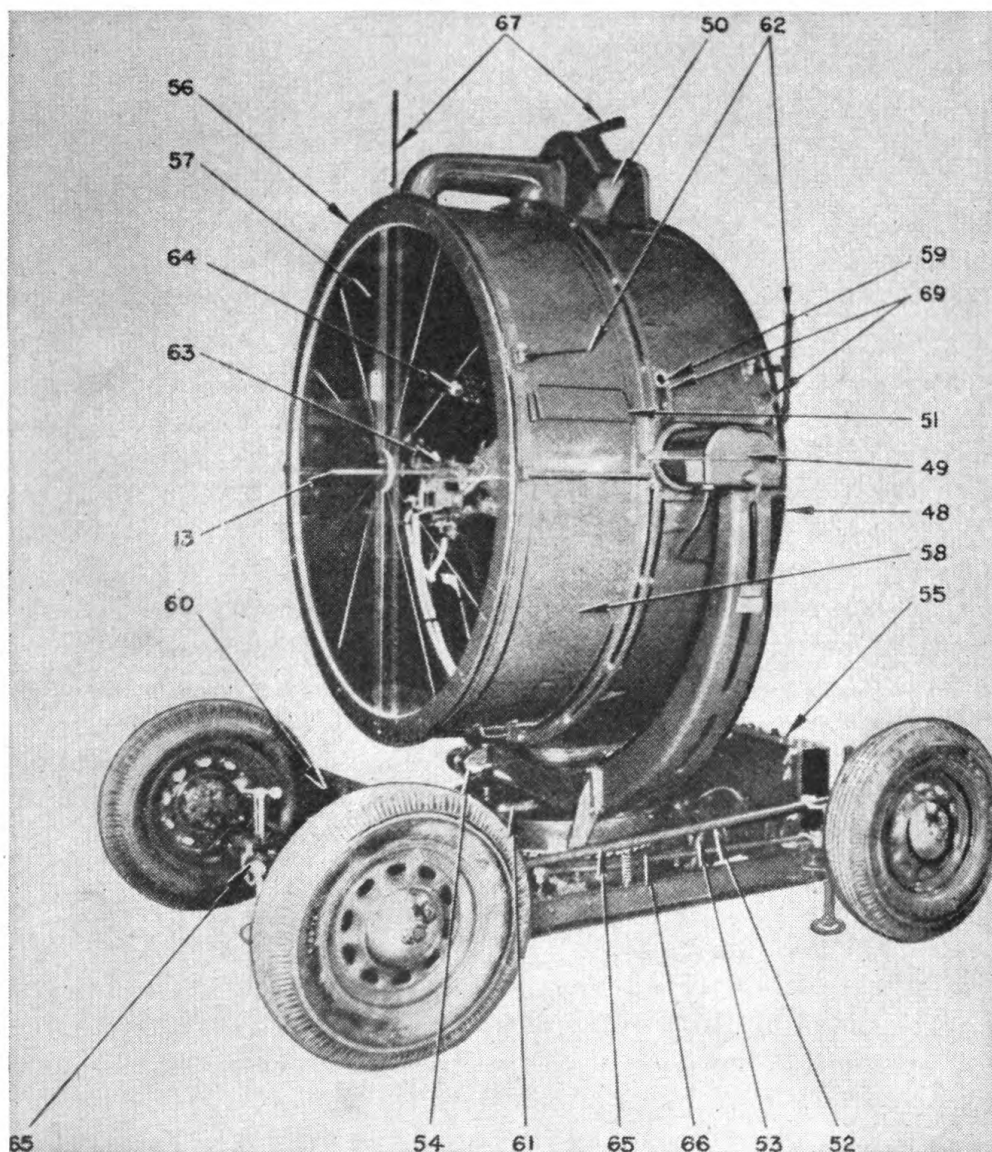

FIGURE 2.—Sperry M1941 antiaircraft searchlight (front quarter view).
Q. Point out the various parts of the searchlight with which your unit is equipped. While pointing out each part, describe its use. A. See figures 2, 3, 4, and 5.